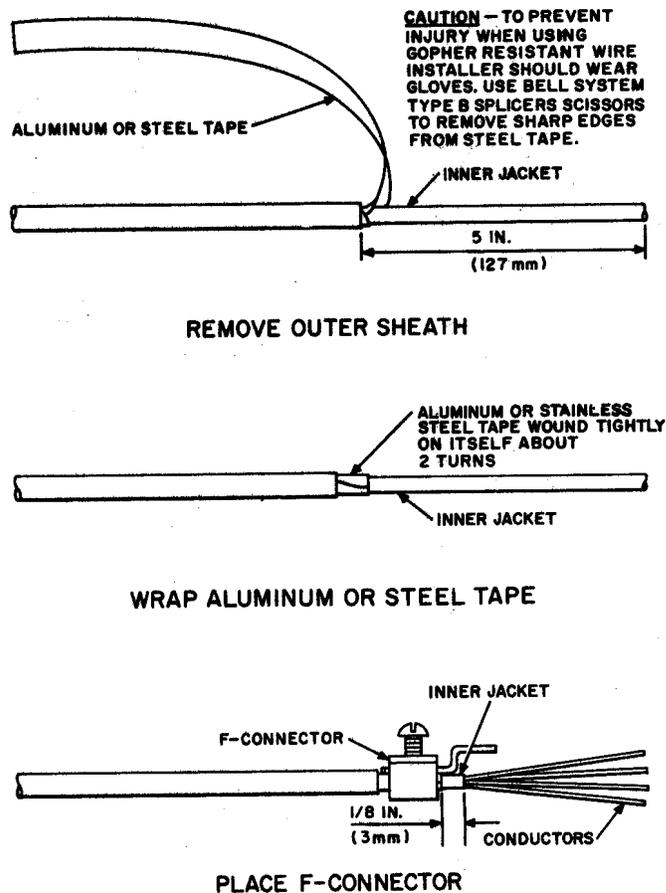
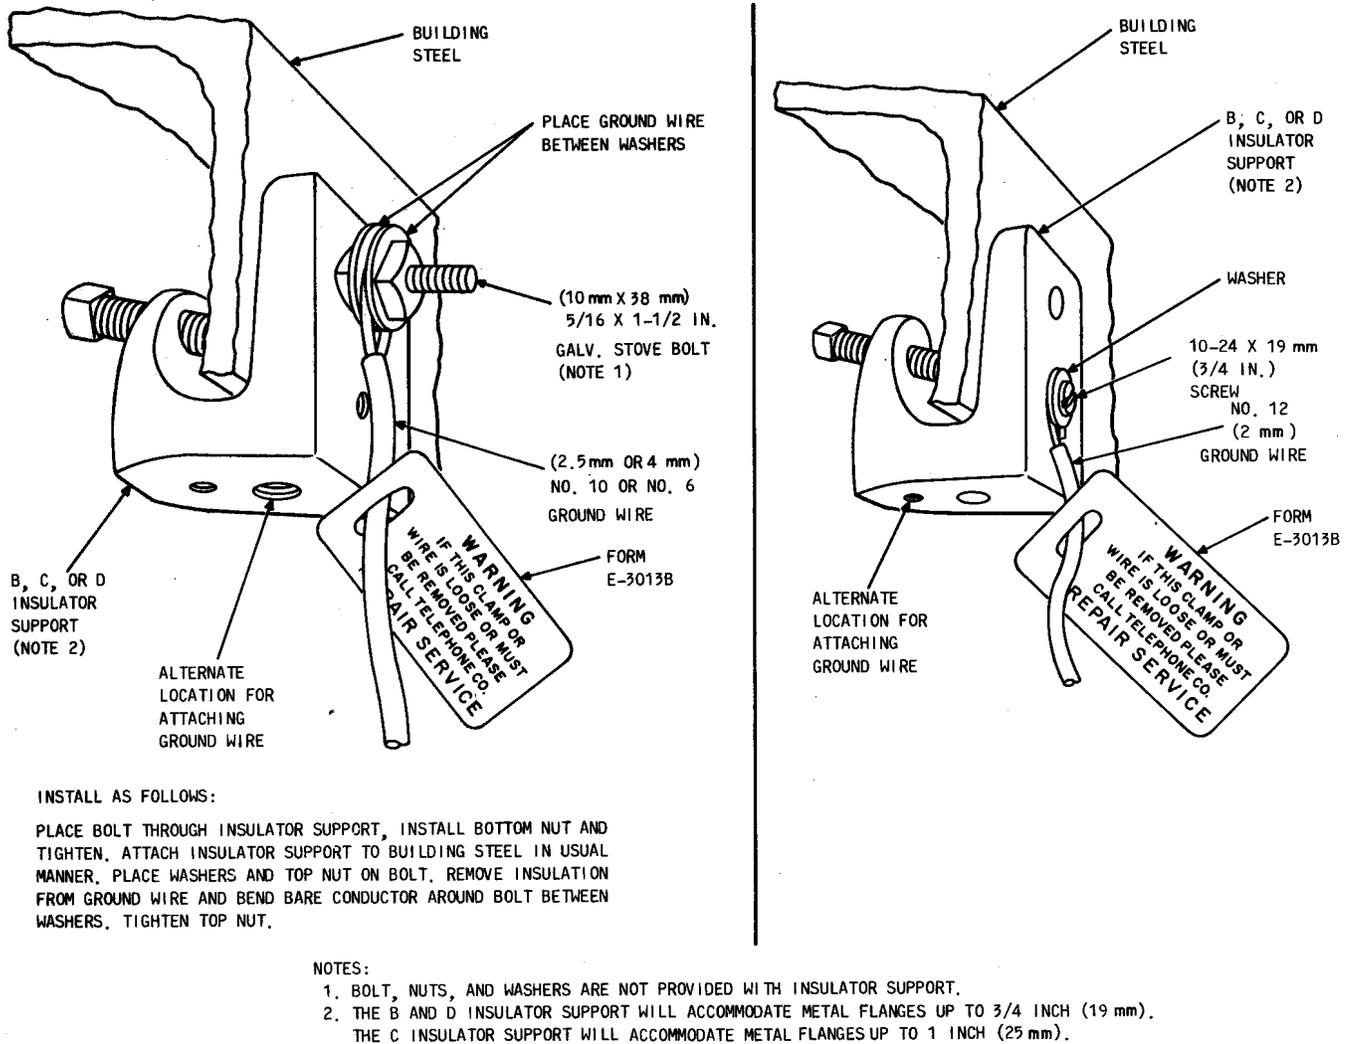

Fig. 25—Preparing B or C Service Wire for Bonding of Metal Shield
Fig. 56—Grounding to Building Steel
connected to the shield of a service wire in the same manner as the F connector (Fig. 25).
6.11 See Table E for ground clamp selection. See Table F and Fig. 25, 52, 53, 54, and 55 for wire connectors. Connections to building steel may be made by using a C or D insulator support (Fig. 56).